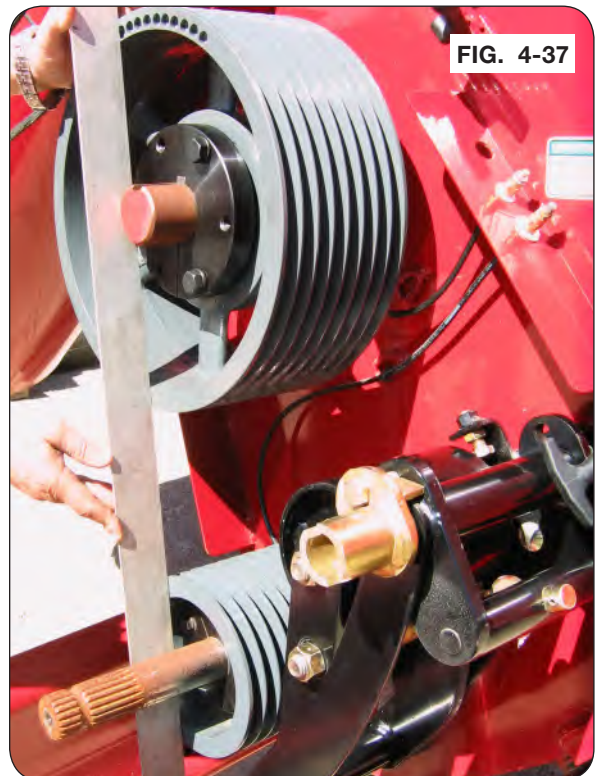

FIG. 4-37
2. After tightening taper-lock bushing hardware, lay a straight edge across face of the drive and driven belt pulleys to ensure alignment between the grooves on the pulleys. (FIG. 4-37)